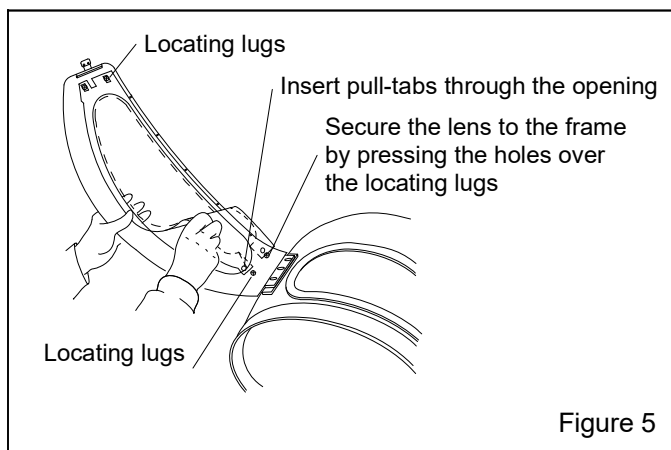

Figure 5
9.1 Lens Options and Replacement Procedures Refer to Figure 5